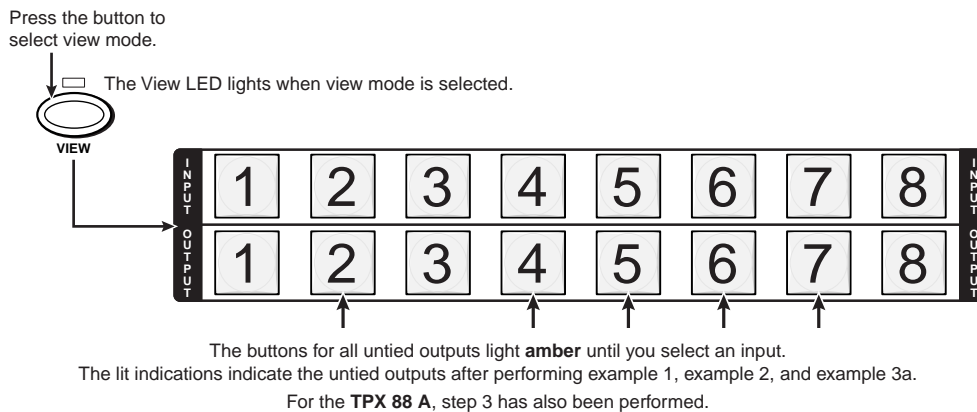
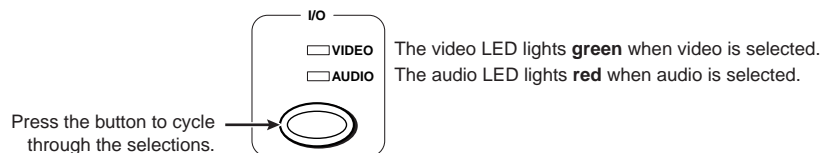

Figure 3-20 — Select view mode
Figure 3-21 — Select video and audio
2. Press and release the View button to enter view-only mode. The View LED lights (figure 3-20).
3. To select both video and audio for viewing, if necessary, press and release the I/O button until the LEDs light (figure 3-21). Observe the indications shown in figure 3-20.